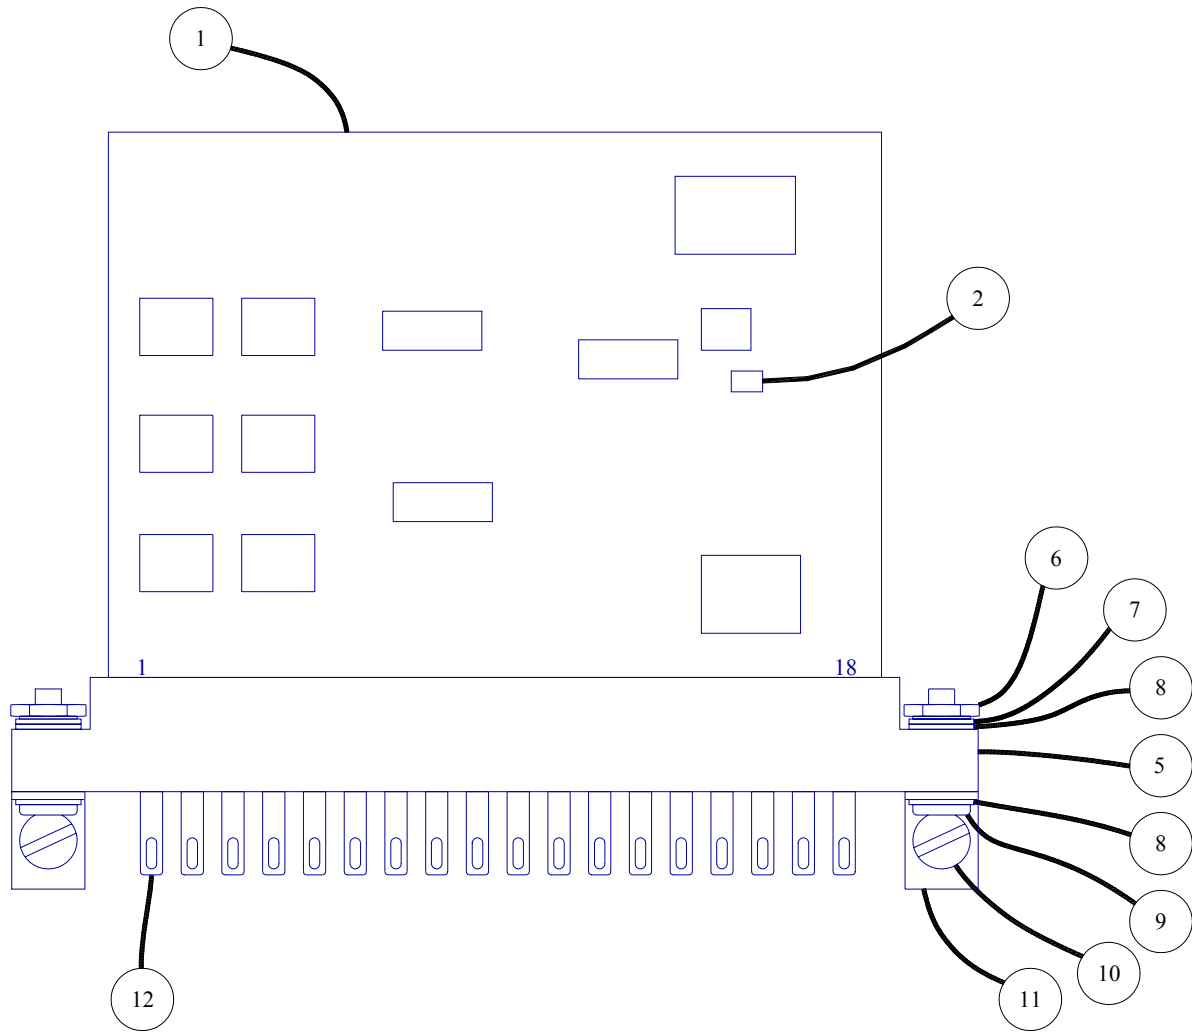

Figure 3-1 GCX Assembly and Parts
Figure 3-1 below shows how your GCX and related items will look when ready for installation. For your reference, the major items are identified individually. The board activity indicator LED (item 2) is the only board mounted part of interest to you.